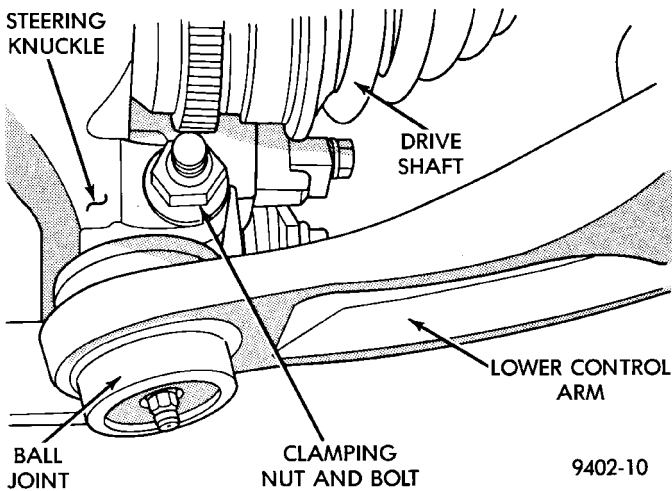

Fig. 19 Tighten Steering Knuckle Clamp Bolt
(7) Install a **NEW** steering knuckle to ball joint stud bolt and nut (Fig. 19). Tighten the nut and bolt to 95 N-m (70 ft. lbs.).
(8) Install tie rod end into steering knuckle. Start tie rod end to steering knuckle nut onto stud of tie rod end. While holding stud of tie rod end stationary, tighten tie rod end to steering knuckle nut. Then,